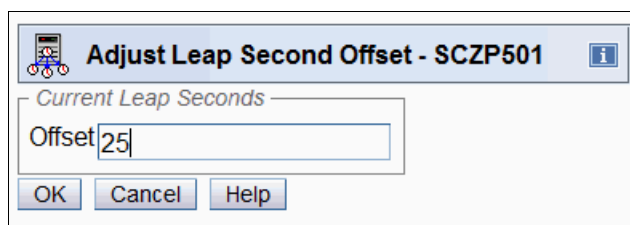

Figure 9-40 System (Sysplex) Time: Adjust Leap Second Offset panel
b. In the Adjust Leap Second Offset panel (Figure 9-40), enter the leap second offset value. We set 25 seconds for the offset. Click **OK**.